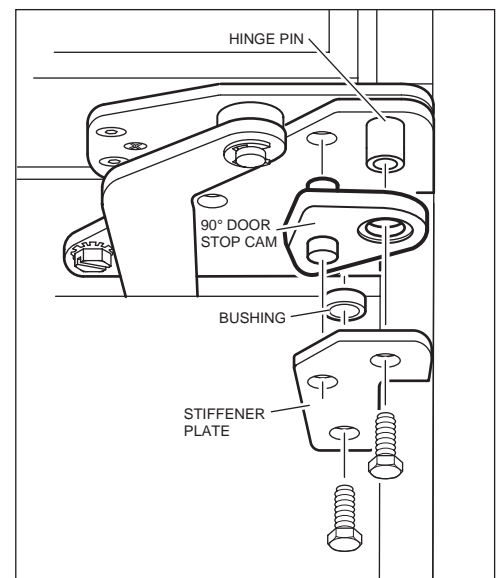

**Figure 2-14. 90° Stop Cam**
- a With door closed, place door stop cam up over hinge pin, making sure stub on cam fits into hole in lower cabinet hinge (See Figure 2-14).
- b. Secure door stop cam by pushing E-ring into groove at end of hinge pin (See Figure 2-14).